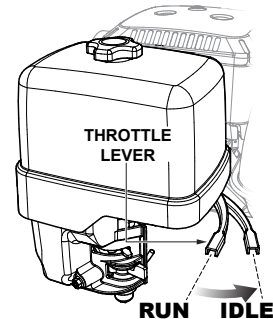

Figure 26. Throttle Lever (IDLE)
1. Move the throttle lever (Figure 26) to the idle position. Cool down the engine for 3 to 5 minutes at idle speed before stopping.